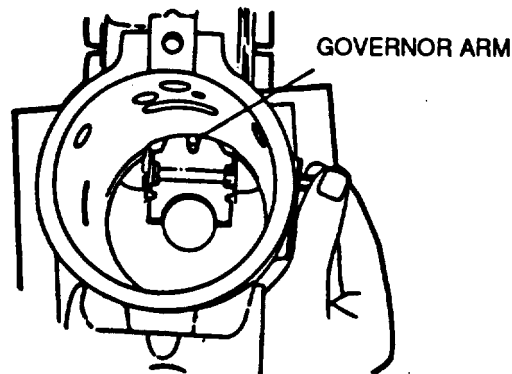

FIGURE 3-75. Installing Governor Arm
- (3) Compress seals (40) and install drive shaft (41) in pump housing.
- (4) Slide thrust washer (39), aligned with flat, and then spring washer (38) onto drive shaft. Secure with retaining ring (37).
- ah. Place governor arm (44, FIGURE 3-45) into position in housing. Insert governor shaft (73) through hole in housing so knife edge mates with groove in governor arm, refer to FIGURE 3-75.